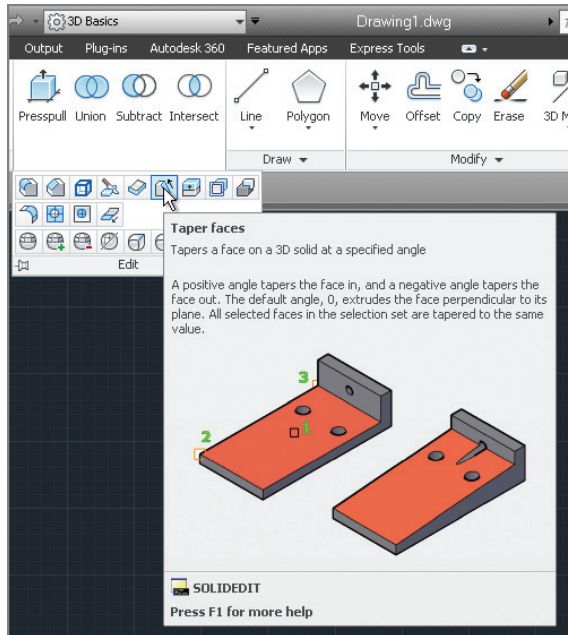

FIGURE 1.11 Tooltip and illustration
6. Click the Edit button at the bottom of the Edit panel to reveal additional tools. Hover the mouse over one of the tools to display a tooltip that identifies the tool and describes its function. Holding the cursor still a while longer reveals either a drawing or a video (without audio) that visually demonstrates what the tool does (see Figure 1.11).
7. Observe that the bottom of the tooltip shown in Figure 1.11 reveals the command name (SOLIDEDIT in this case). The ribbon, menus, toolbars, and palettes are all graphical alternatives to typing commands.